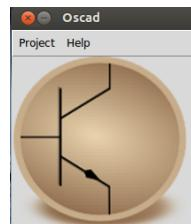

Figure 2.14: Desktop: Oscad
- It opens the Oscad window as shown in figure 2.14